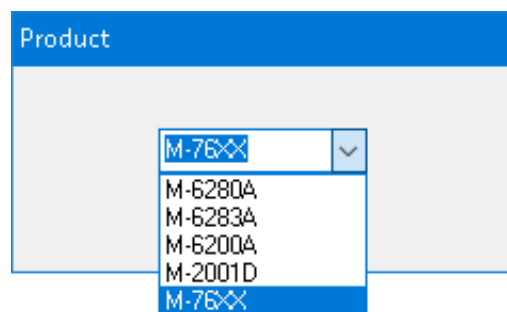

Figure 2-4 REFU Select Product Dropdown List
2. Launch the Remote Ethernet File Update (REFU) Utility. The utility will display Figure 2-4 allowing the user to select the applicable product.